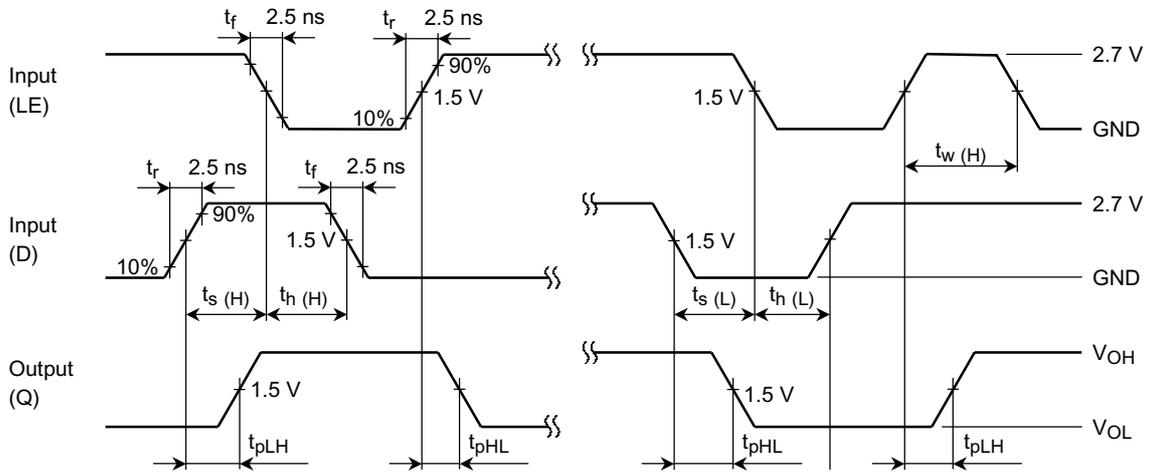

Figure 2 $t_{pLH}, t_{pHL}, t_w, t_s, t_h$
| Propagation delay time (D-Q) | t _{pLH} | Figure 1, Figure 2 | 2.7 | — | 9.0 | ns |
| Propagation delay time (LE-Q) | t _{pLH} | Figure 1, Figure 2 | 2.7 | — | 9.5 | ns |
| Minimum pulse width (LE) | t _w (H) | Figure 1, Figure 2 | 2.7 | 3.3 | — | ns |
| Minimum set-up time | t _s | Figure 1, Figure 2 | 2.7 | 2.5 | — | ns |
| Minimum hold time | t _h | Figure 1, Figure 2 | 2.7 | 1.5 | — | ns |